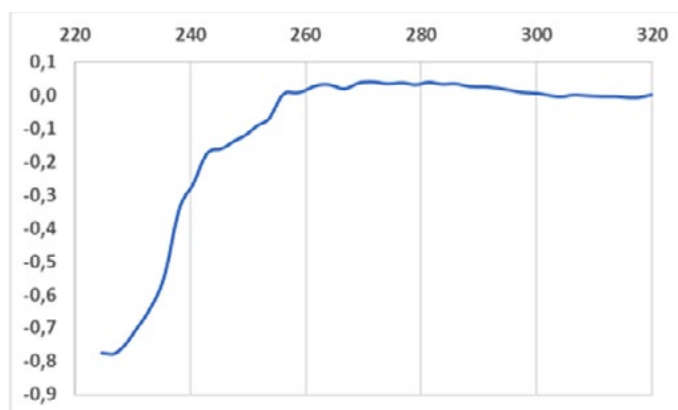

Figure 7: Typical spectra of a sample measured after a wrong blanking procedure
- Unusual spectra (negative values in some parts of the spectrum, ragged spectrum...) usually mean the blank was not performed properly or that the sample area was dirty. (Figure 7)